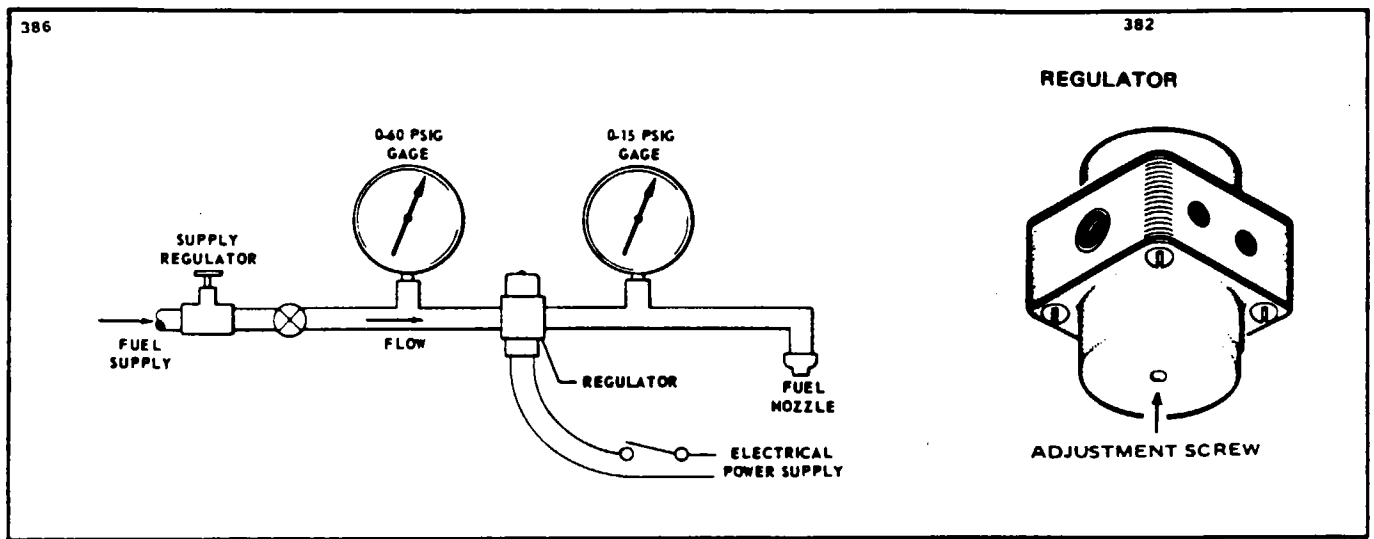

Figure 13-13. Test Setup for Fuel Regulator and Shutoff Valve
13-34. FUEL REGULATOR AND SHUTOFF VALVE. (Refer to Figure 13-13.) This unit provides preset, regulated fuel pressure as well as remote shutoff to the heater. It is set for 7.5 psi. The shutoff valve is operated by a solenoid.
1. Install the regulator in a test stand similar to that shown in Figure 13-13.